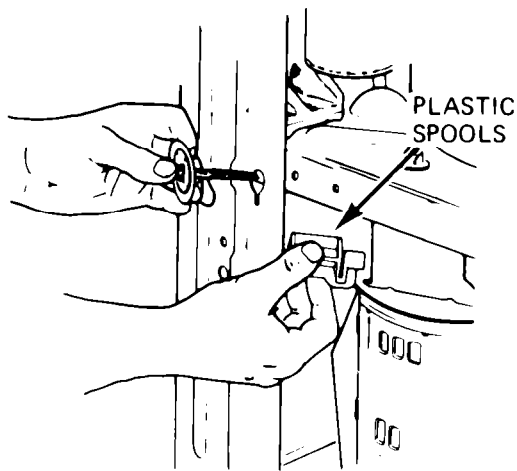
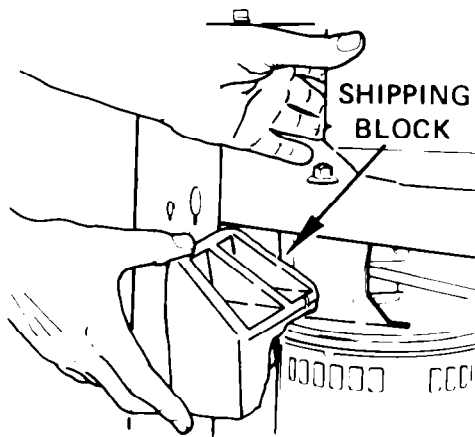

Figure 5
Figure 6
Remove the rear service panel (1) . . . first remove two screws at the bottom of the panel, then swing the panel up and toward you. Now remove the shipping blocks between the base plate and cabinet, inside the left and right rear corners of the washer, by removing the screws, washers and plastic spools (2). These assemblies are for protection of the washer during shipping. (See Figure 5.) Push base plate forward and remove the foam plastic block in the left corner (3B). (See Figure 6.) Save all shipping accessories in the event the washer may be moved to another location.
13. Install nylon spool and bolts (2) Figure 5.